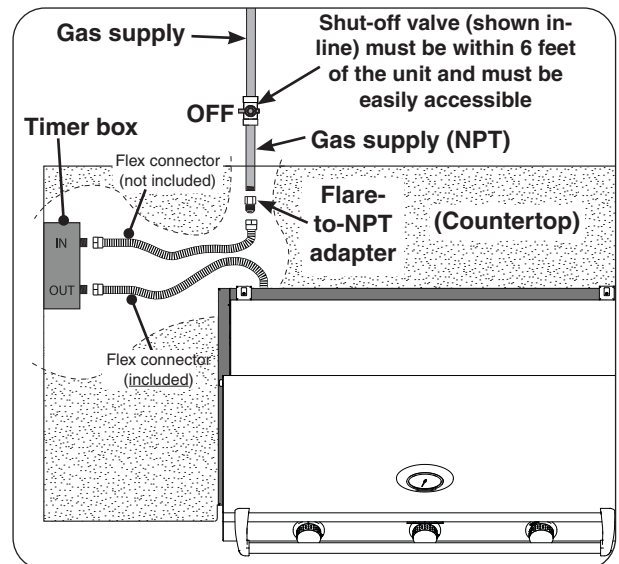

Fig. 19-1 Household LP & Nat. gas diagram
3. Using two wrenches, connect the flex connector coming from the grill to the 1/2" **flare adapter labeled OUT**. See Fig. 19-1. Ensure the connection is tightened securely.
4. **Connect gas source to IN:** Using two wrenches, connect a flex connector (not included) to the 1/2" **flare adapter labeled IN**. See Fig. 19-1. Ensure the connection is tightened securely.
5. Route the flex connector coming from the timer box to the gas supply stub (see Fig. 19-1).